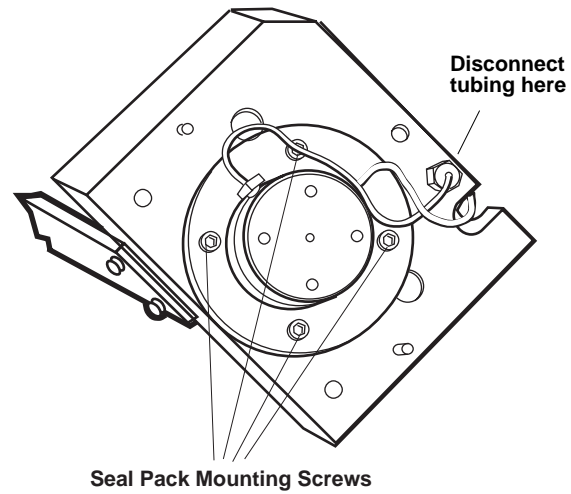

Figure 5-7 Bottom View of Injector
3. Using a Torx T10 wrench, remove the four screws holding the seal pak to the base of the injector (Figure 5-7).